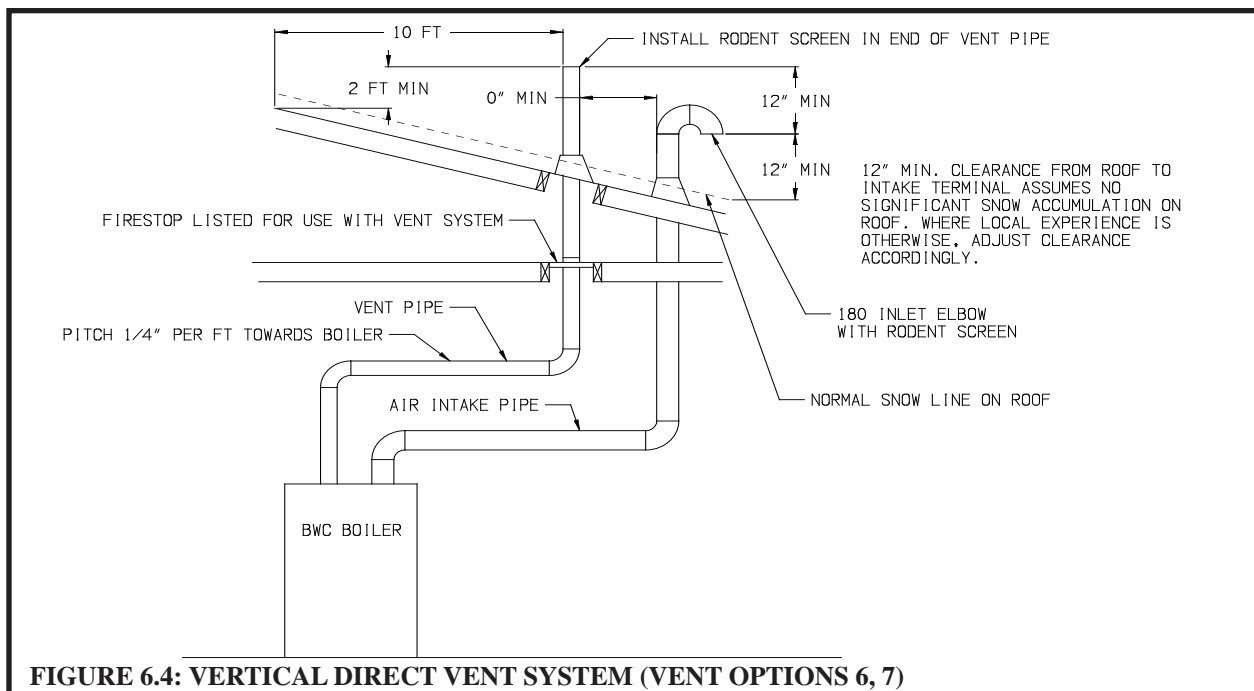

FIGURE 6.4: VERTICAL DIRECT VENT SYSTEM (VENT OPTIONS 6, 7)
- 6) Permitted Terminals for Vertical Venting (Vent Options 6, 7) - A rodent screen is installed in the end of the vent pipe. Vent manufacturer part numbers for these screens are shown in Table 4. The air inlet terminal consists of a 180 degree elbow (or two 90 degree elbows) with a rodent screen as shown in Figure 6.4.
- 7) Vertical Vent Terminal Locations (Vent Options 6,7) - Observe the following limitations on the location of all vertical vent terminals (see Figure 6.4):